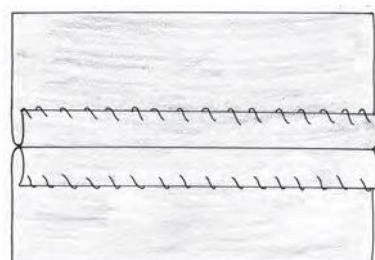

Fig. 3.25: Herringbone finish
- After pressing the seam open, herringbone stitches are worked on the two raw edges (Fig.3.25).